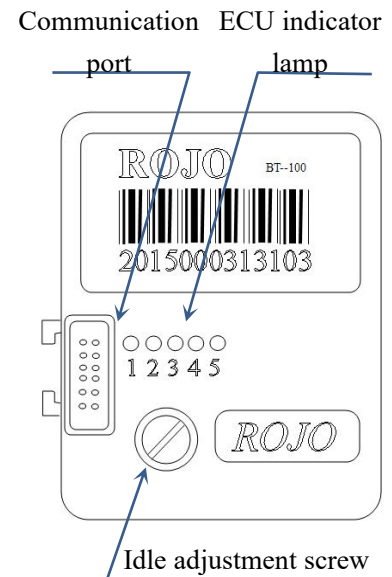

Fig. 2 ECU panel
ECU indicator lamp, located on the ECU panel, as shown in Figure 2
- (1) Pull the throttle to the maximum opening;
- (2) turn on the ignition switch, loose throttle in 1 seconds, then the EFI will work in "fast self-learning" mode.
- (3) Start the engine, pull the throttle to fast warm the engine, stay the throttle in idle position, look the fault light, under normal circumstances it will go off after self-study process is over in idle position. If rapid flash occurs, it indicating that the idle intake air is too small, you should adjust the "Idle adjustment screw" (Figure 2) counterclockwise, if slow flashing occurs, it indicating that the intake air is too large, you should adjust the "Idle adjustment screw" clockwise.
- (4) Simpler method: If the engine idling speed is too high, or easy to misfire when the engine is warm up, try adjusting the idle adjustment screw 1 to 2 turns clockwise, if the engine is difficult to start, or is easy to misfire, when the engine is cold, try adjusting the idle adjustment screw 1 to 2 turns counterclockwise. Maintain if improvement, restore if deterioration.